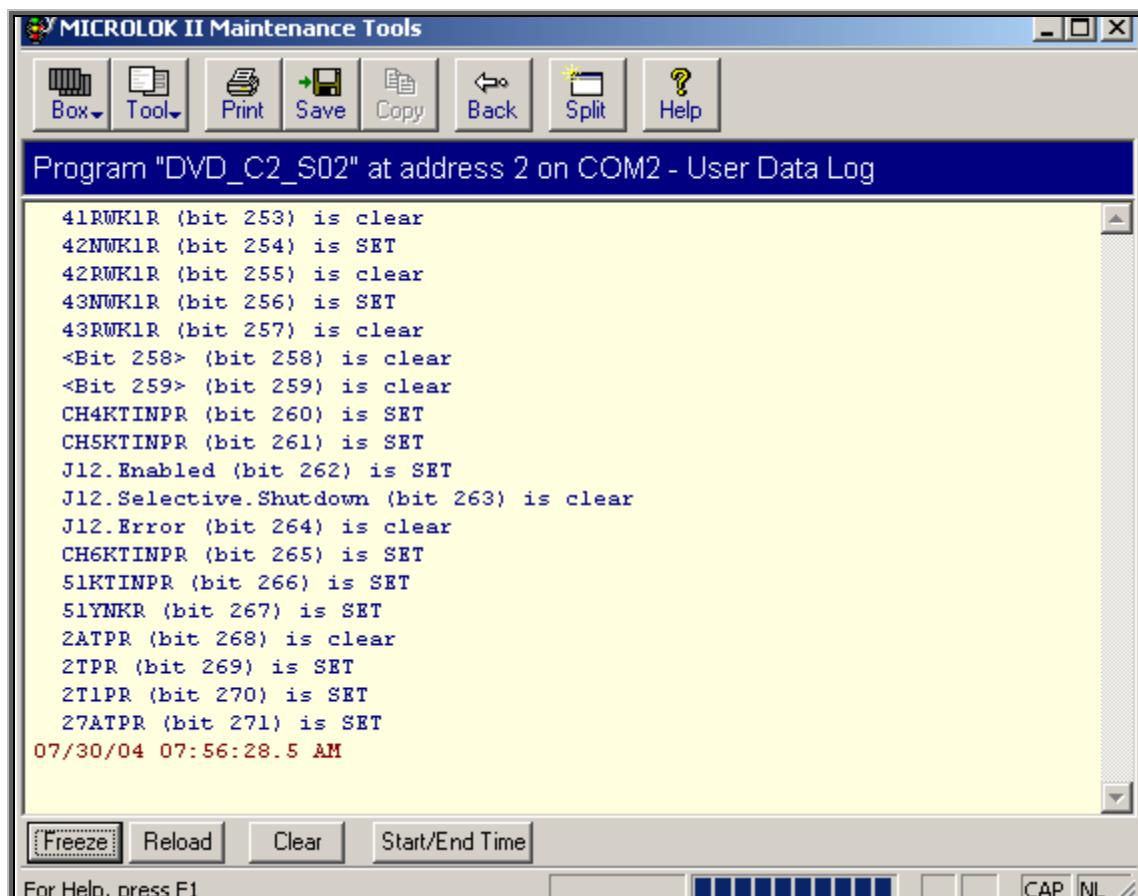

Figure-5.6.2.4
- ❖ User Data Log window appears as shown in Figure-5.6.2.4.